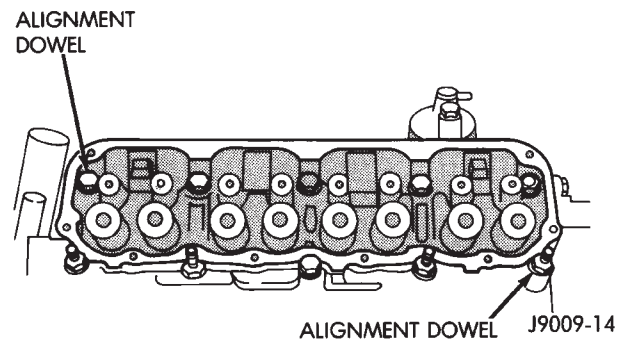

Fig. 37 Alignment Dowel Locations
(2) Install one dowel in bolt hole No.10 and the other dowel in bolt hole No.8 (Fig. 37).
(3) Remove the shop towels from the cylinder bores. Coat the bores with clean engine oil.
(4) Place the engine cylinder head gasket (with the numbers facing up) over the dowels.
(5) Place the engine cylinder head over the dowels.